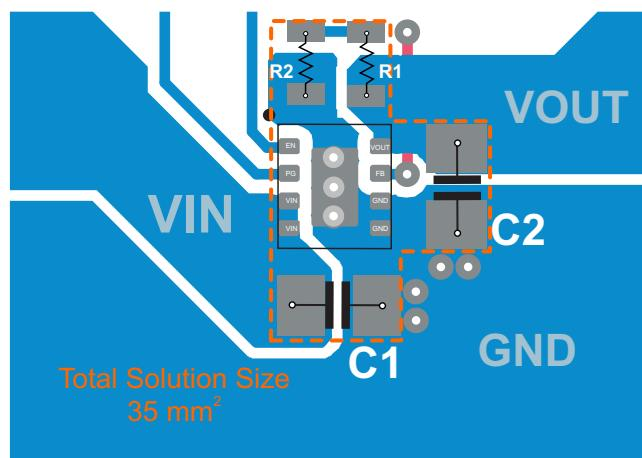

图 30. TPS82084/5 PCB Layout
- Refer to 图 30 for an example of component placement, routing and thermal design.